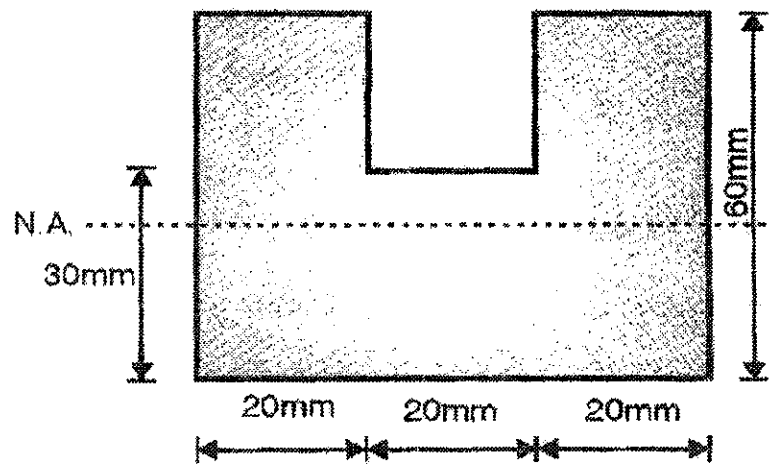

Fig. 6
- (b) Fig. 6 shows cross-section of beam is subjected to shear force of 10 kN. Draw shear force diagram and determine also the